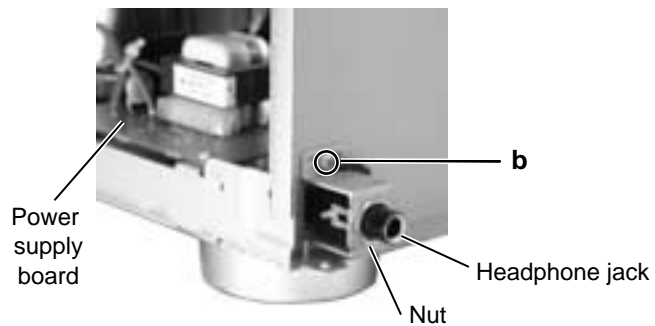

Fig.18
■ Removing the power supply board (See Fig.18 to 19)